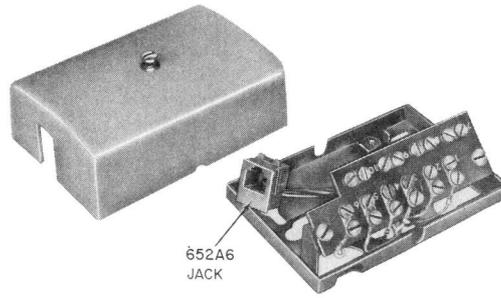

Fig. 1—74D Connecting Block
1.08 These arrangements use a standard modular type connecting block (Fig. 1, 2, and 3) as the interface with the CPE as follows.
2.08 ♦USOC RJ18C: Provides a bridged connection of single-line tip and ring and make-busy leads MB/MB1 (Fig. 10). Used where customer requires surface-mounted installation. Requires installation of a 74D connecting block (Fig. 1) or equivalent at location of connection to CPE. Connection to the network should be made per Operating Company make-busy circuit drawings.
a line circuit with "A" lead control and make-busy leads MB/MB1 (Fig. 11). Used where customer requires surface-mounted installation. Requires installation of a 74D connecting block (Fig. 1) or equivalent at location of connection to CPE. Connection to the network should be made per Operating Company make-busy circuit drawings.